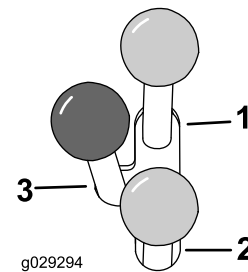

Figure 13
- To operate a hydraulic attachment in the forward direction, move the auxiliary-hydraulics lever forward (Figure 13).
- To operate a hydraulic attachment in the reverse direction, move the auxiliary-hydraulics lever rearward (Figure 13).
Note: If you release the lever while in the FORWARD or REVERSE position, the lever automatically returns to the NEUTRAL position (Figure 13).